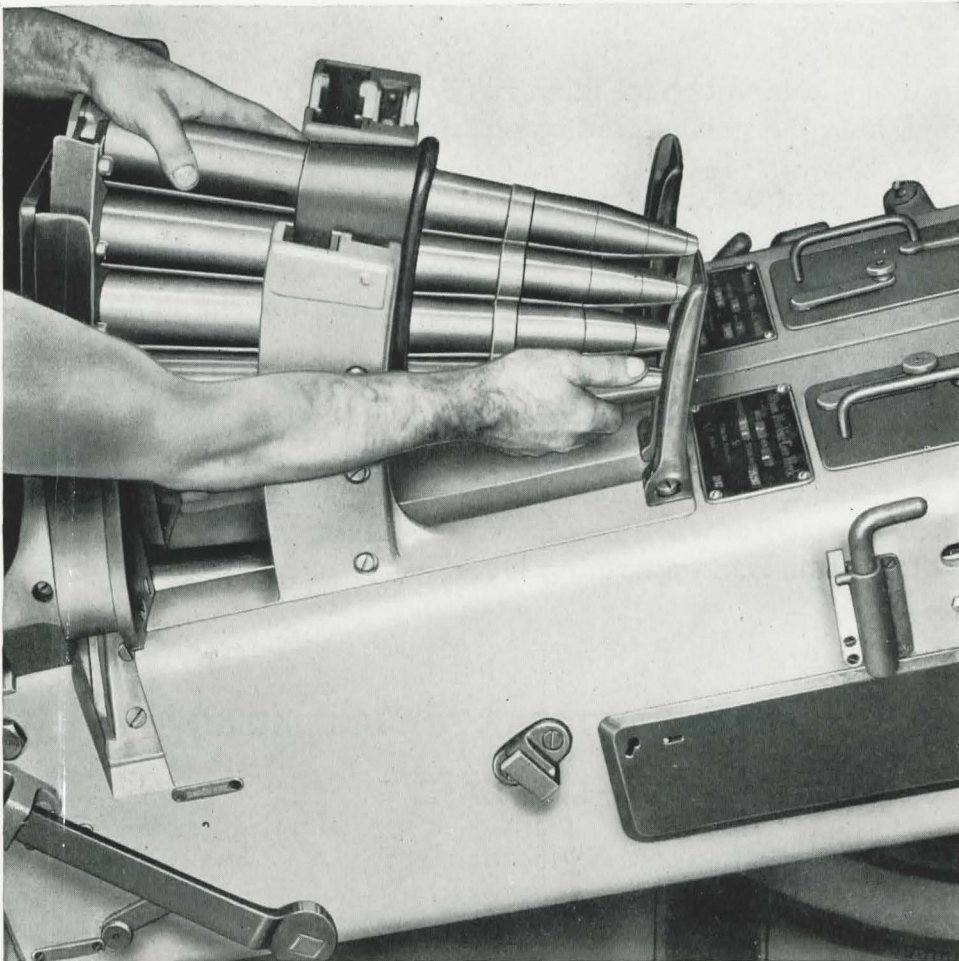

Figure 40
5. Install the round releasing tool (298899) in the side frames, **Figure 40**, compressing the feed and stop pawls.